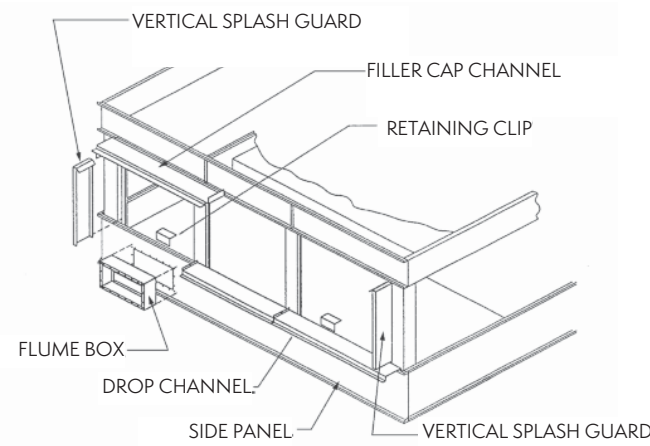

Figure 10 – Drip Channel and Splash Guards, 17', 20' & 24' Wide Models
11. Place the vertical splash guard in the bend of the vertical supports. Attach the vertical splash guard using 5/16" tappers. For stainless steel construction, attach the vertical splash guard using 5/16" stainless steel nuts and bolts. (See **Figure 10**.)